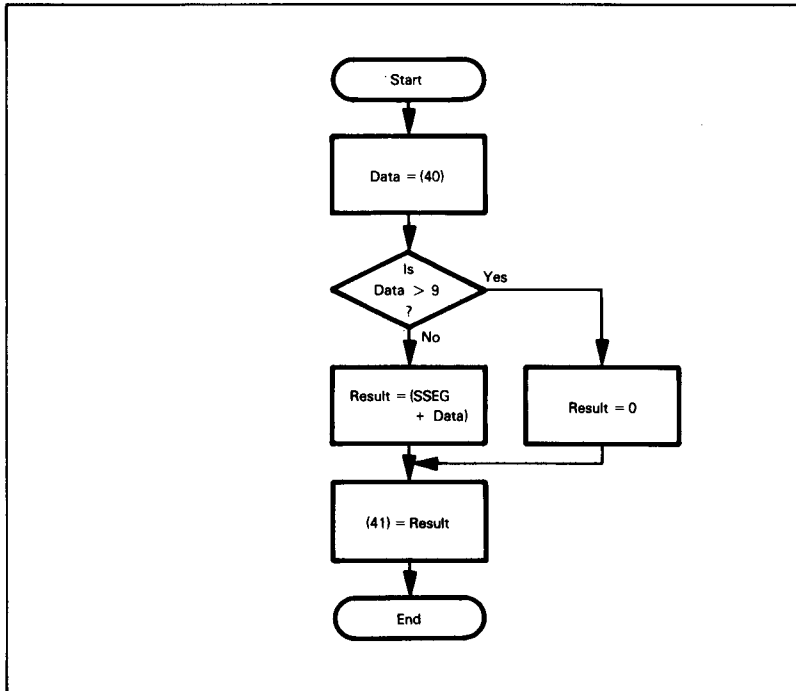

Figure 14-5. Flowchart of Decimal to Seven-Segment Conversion
**Initial Program** (from flowchart in Figure 14-5):